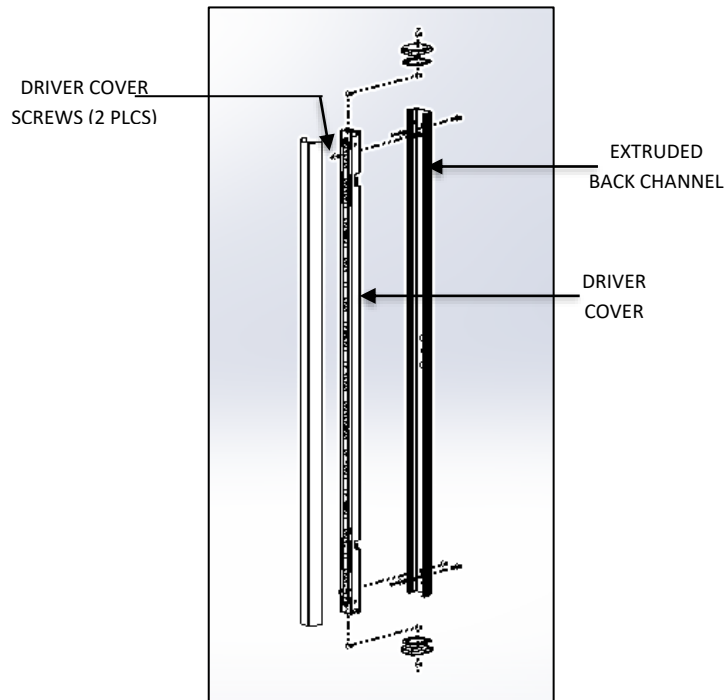

FIG.7 – DRIVER COVER DISASSEMBLY
3. Unscrew the two #6-32 screws and remove the DRIVER COVER from the EXTRUDED BACK CHANNEL. Be careful not to damage LED ARRAY as shown in FIG. 7.